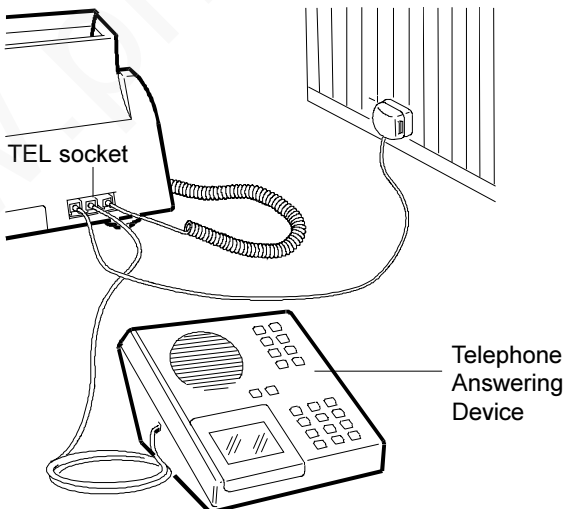

Fig. 8-2
- 1) Plug the cord of the telephone answering device or of the emergency phone set into the TEL socket (Fig. 8-2).